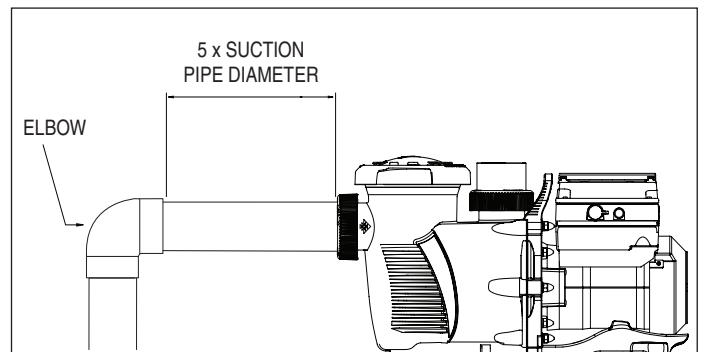

Figure 2: Recommended Piping
4. For most installations Pentair recommends installing a valve on both the pump suction and return lines so that the pump can be isolated during routine maintenance. However, we also recommend that a valve, elbow or tee installed in the suction line should be no closer to the front of the pump than five (5) times the suction line diameter. **See Figure 2.**